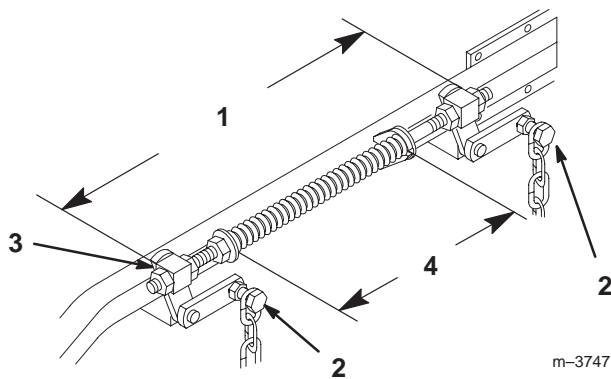

Figure 49
6. Loosen four (4) top chain bolts in slots. Check the length of the rod/swivel assemblies. Distance from outside of rear swivel to outside of front swivel should be 19-7/8" (505 mm) (Fig. 49). Make sure that all four swivels move freely in holes.
8. Lift up on four (4) top chain attachment bolts, in the slots, to take slack out of chains and tighten flange lock nuts. (Deck is still supported by two rear and one front blocks under mower.)
2. Springs are compressed so the distance between the two large washers should be 10-1/4" (260 mm) (Fig. 49).
3. Adjust by turning nut in front of each spring (Fig. 49). Clockwise will shorten spring; counter-clockwise will lengthen spring.